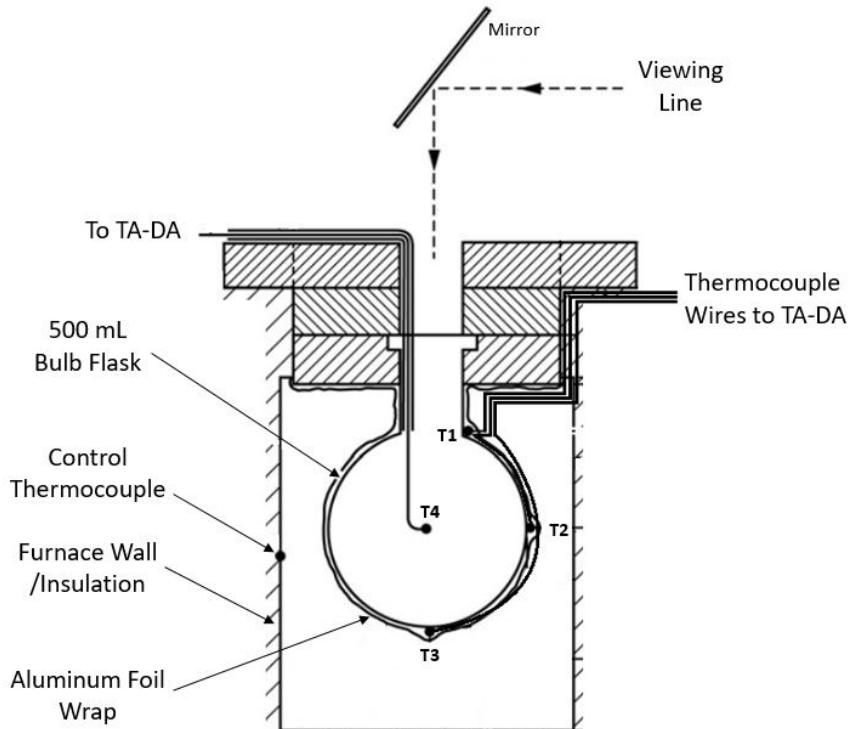
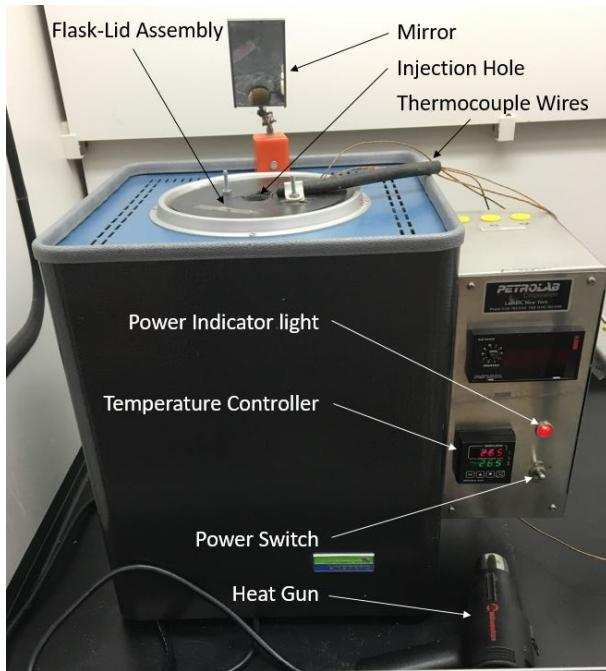

Figure 13: Diagram of the furnace when assembled
Figure 15: AIT Furnace
- The final setup should resemble Figure 13
- The furnace, shown in Figure 15, is an encased stack of ceramic insulation with cavities cut out to allow space for the heating elements and the test flask (see Figure 13 for an internal diagram of the furnace). The furnace is controlled with measurements taken at the insulated furnace wall. This design causes the furnace to have large temperature gradients while in operation. As a result, the setpoint temperature and the flask temperature will almost always differ significantly (as much as 25 K in some cases). Therefore, setpoints must be chosen between approximately 10 - 20 K above the desired temperature to reach that temperature inside the flask. **The reported AIT must be taken from the internal flask temperature (Thermocouple 4) and NOT the control thermocouple inside the furnace**
### 5.2.2 Furnace Operation (See Figure 15)